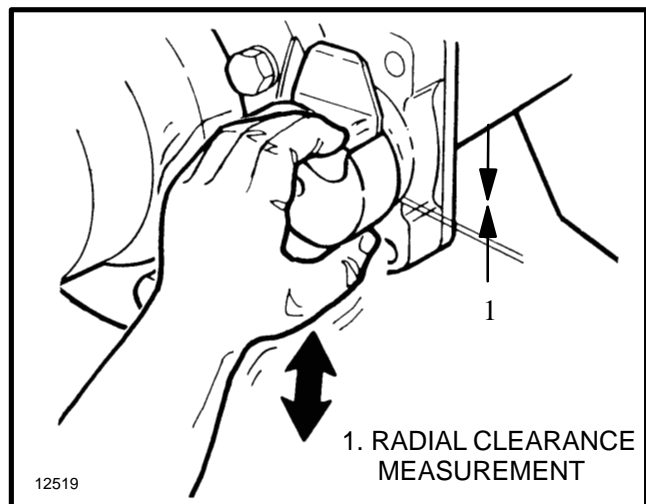

FIGURE 14.
3. Remove the snap ring (18) and washer(s) (17) from the end of the camshaft (1). Pull the actuator arm (16) off the camshaft.
4. Check for wear at the camshaft bushings as shown in FIGURE 14. If the radial clearance of the camshaft is more than 0.76 mm (0.030 in), replace the bushings. See the section **PLANETARY DRIVE AXLE, 1400 SRM 439**, to remove the planetary hub. Remove the washer(s) and seal from the camshaft and pull the camshaft from the spider. Use a driver of the correct size to remove the bushings (4) from the spider and the bracket. See FIGURE 15.